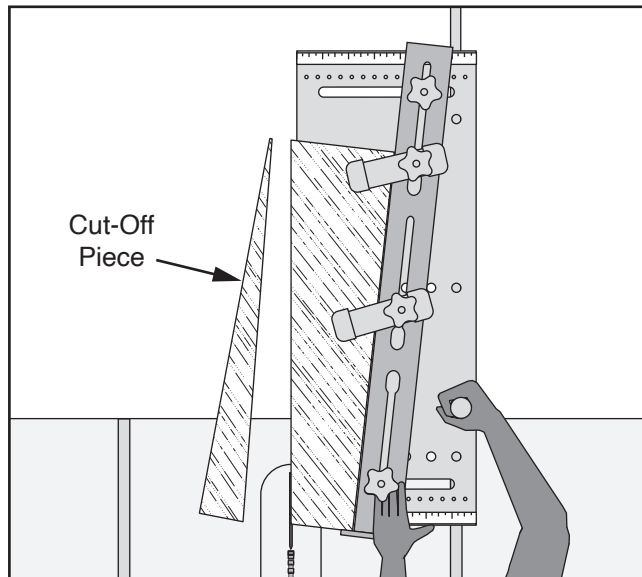

Figure 20. Completed cut (splitter blade guard removed for clarity).
12. Maintaining firm downward pressure on jig against table, with right hand on tapered knob and left hand (or push stick, if necessary) at rear of jig, feed workpiece all the way through blade, keeping hands and fingers clear of blade (see **Figure 20**).